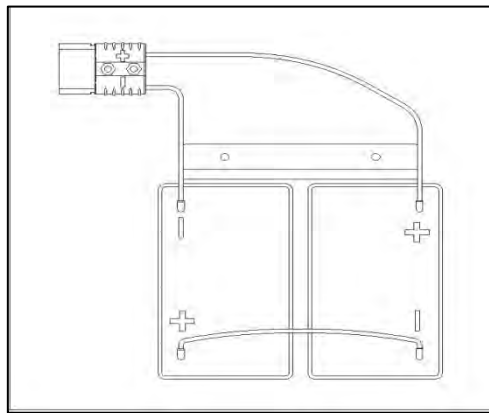

Figure 3
The machine requires two 12V batteries or one 24V Lithium-ion battery, connected according to Figure 3 below.
3. Route and install the battery cable as shown in (Figure 3), then carefully tighten the nut on each battery terminal.
1. Insert the key into the key switch (4, Figure 3) and turn to the "On" position.
2. Press the "Vacuum system button" (3, Figure 3) and the squeegee assembly support frame will be automatically lowered to the ground.
2. Disconnect the battery connector (Figure 3).